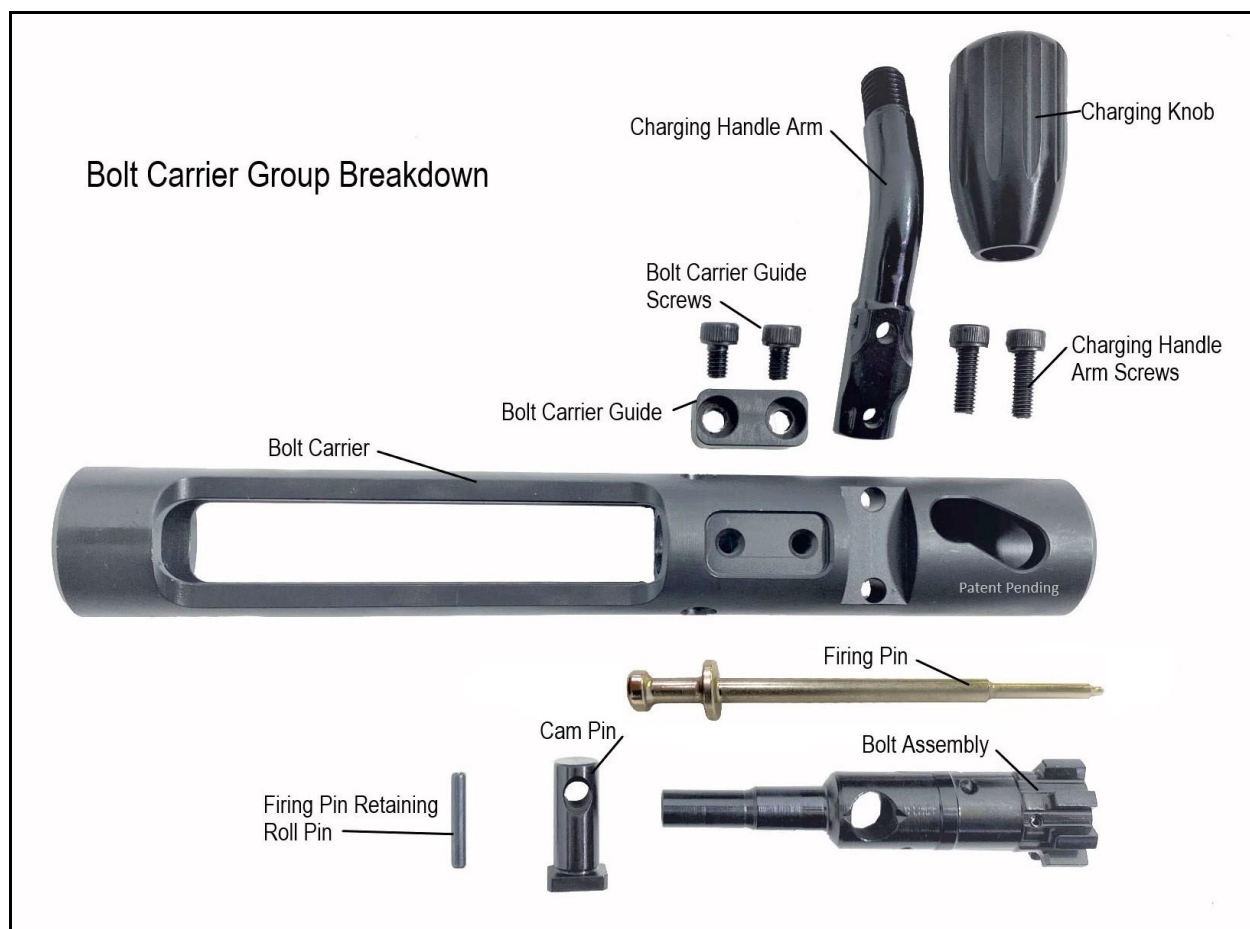

Figure 3
4. To Replace, first ensure that the assembly is fitted the correct way into the buffer tube as per (figure 3), start to slide the return spring assembly into the buffer tube, again you will need to push the hammer downward, the assembly will slide over the hammer much easier than it was to remove, push assembly all the way home.